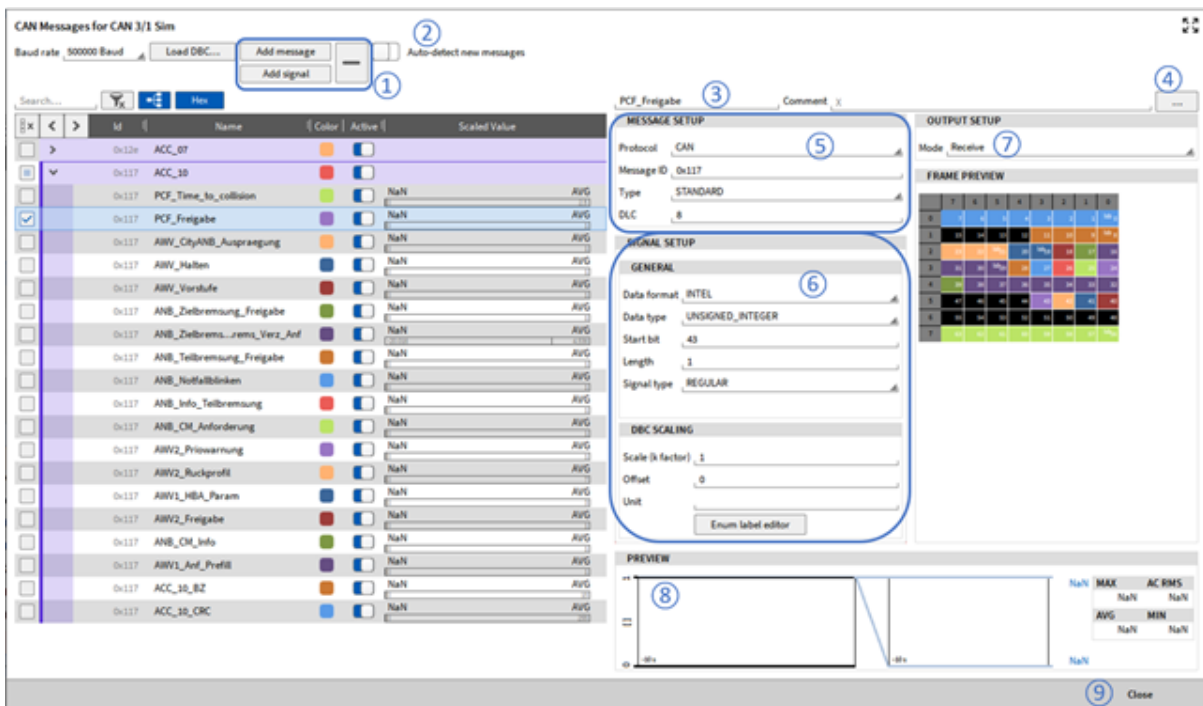

Fig. 7.207: CAN editor overview
- Manually add or delete CAN messages and signals (see ① in Fig. 7.207).
- Scan for CAN messages, which will automatically be created with their ID and DLC. After the scan, a name can be given and signals can be created (see ② in Fig. 7.207).
- Rename the currently selected CAN message and signal (see ③ in Fig. 7.207).
- Add comments to messages and signals (see ④ in Fig. 7.207).
- Edit CAN messages and access the same settings as described in section *CAN message setup* (see ⑤ in Fig. 7.207). With the enum label editor a text label can be defined for a specific, unique signal value which is then shown in the digital instrument (see also *Enum scaling*).
- Edit CAN signals and access the same settings as described in *CAN signal setup* (see ⑥ in Fig. 7.207).
- Set the CAN Message mode to Receive for acquiring data or transmit for outputting OXYGEN data over CAN (see ⑦ in Fig. 7.207).
- Providing a preview of the past 10 seconds of the signal to check if proper settings have been applied to the signal (see ⑧ in Fig. 7.207).
When finished you can exit the CAN editor again by pressing the Close button (see ⑨ in Fig. 7.207).